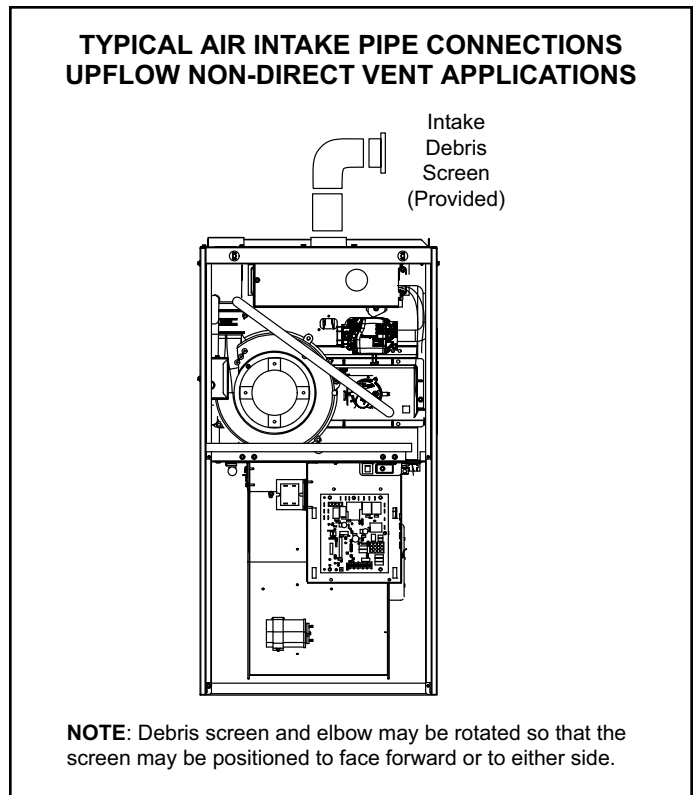

Figure 25.
1. Use field-provided materials and the factory-provided air intake screen to route the intake piping as shown in Figure 25 or Figure 26. Maintain a minimum clearance of 3" (76mm) around the air intake opening. The air intake opening (with the protective screen) should always be directed forward or to either side in the upflow position, and either straight out or downward in the horizontal position.